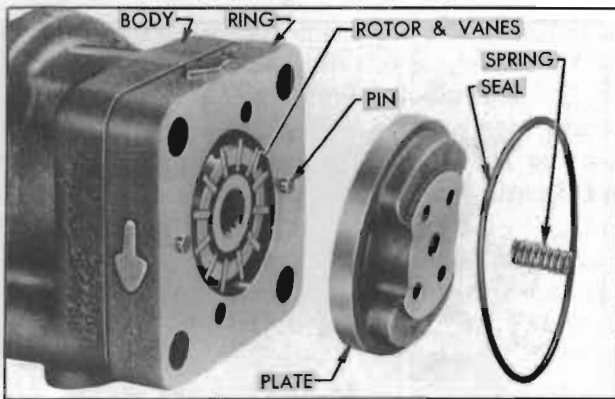

Figure 7-40—Pressure Plate, Ring, Rotor and Vanes
5. Remove pressure plate spring and "O" ring seal, then remove the pressure plate which fits over two dowel pins extending through the ring. Remove the ring from dowel pins, then remove "O" ring seal and the rotor with vanes. See figure 7-40.
4. The ring must be installed over the dowel pins with the embossed arrows pointing in a *counterclockwise* direction as viewed from *rear end* of pump. See figure 7-40. NOTE: *When viewed from the front or shaft end of pump, the arrows on ring point in a clockwise direction, which is the direction of rotation of pump shaft.*